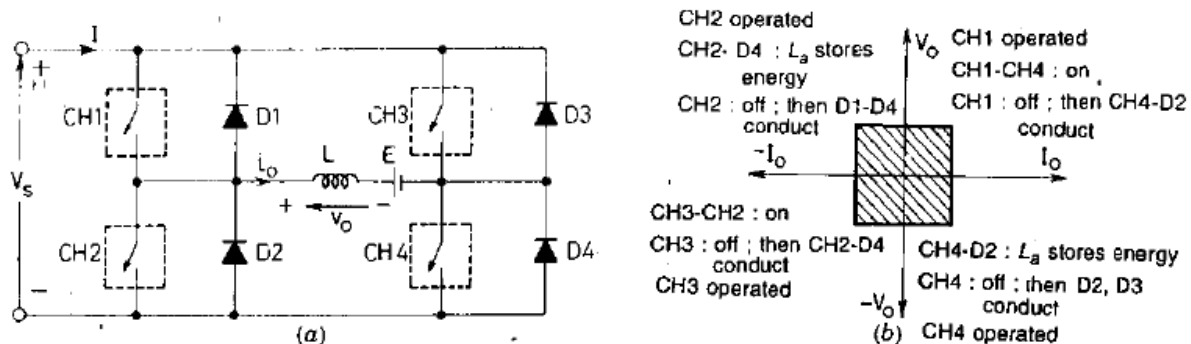

Fig. 7.10. Four-quadrant, or Type-E chopper
The power circuit diagram for a four-quadrant chopper is shown in Fig. 7.10 (a). It consists of four semiconductor switches CH1 to CH4 and four diodes D1 to D4 in antiparallel. Working of this chopper in the four quadrants is explained as under :
**First quadrant :** For first-quadrant operation of Fig. 7.10 (a), CH4 is kept on, CH3 is kept off and CH1 is operated. With CH1, CH4 on, load voltage  $v_o = V_s$  (source voltage) and load current  $i_o$  begins to flow. Here both  $v_o$  and  $i_o$  are positive giving first quadrant operation. When CH1 is turned off, positive current freewheels through CH4, D2. In this manner, both  $V_o, I_o$  can be controlled in the first quadrant.
**Third quadrant :** For third-quadrant operation of Fig. 7.10 (a), CH1 is kept off, CH2 is kept on and CH3 is operated. Polarity of load emf  $E$  must be reversed for this quadrant working. With CH3 on, load gets connected to source  $V_s$ , so that both  $v_o, i_o$  are negative leading to third quadrant operation. When CH3 is turned off, negative current freewheels through CH2, D4. In this manner,  $v_o$  and  $i_o$  can be controlled in the third quadrant.
**Fourth quadrant :** Here CH4 is operated and other devices are kept off. Load emf  $E$  must have its polarity reversed to that shown in Fig. 7.10 (a) for operation in the fourth quadrant.
The devices conducting in the four quadrants are indicated in Fig. 7.10 (b).